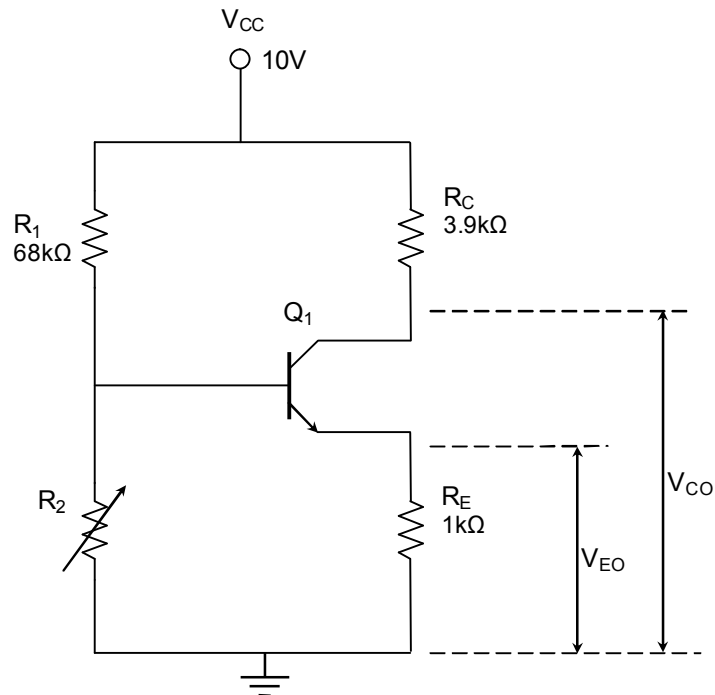

Figure 6.2: Common-emitter circuit
- (i) For the first part, you should perform DC sweep on the circuit shown in Figure 6.2 to find R_2 for the Q-point (~~$V_{CE}=5V$, $I_C=1mA$~~). Also, you should measure V_{CEQ} , I_{CQ} ($\approx I_{EQ}$) for $R_2 = 1k\Omega$, $5k\Omega$, $15k\Omega$, and $25k\Omega$ on the same circuit.
2. Set up the circuit using the secondary transistor, as shown in Figure 6.2 without connecting the capacitors or the source voltage V_S . Use a decade box for R_2 and adjust it until V_{CE} is about 2.5V. R_2 will probably be close to 16 kΩ. Measure and record V_{E0} , or the emitter-to-ground voltage using the DMM. From this voltage measurement and the value of R_E , find $I_E \approx I_C$. Also measure and record V_{CE} .
1. Keep the primary transistor in the circuit shown in Figure 6.2. Vary R_2 through the following values and measure and record the resulting Q-point (V_{CE} and I_C): 1kΩ, 2kΩ, 5kΩ, 8kΩ, 10kΩ, 15kΩ, 18kΩ, 20kΩ, 25kΩ, 30kΩ.